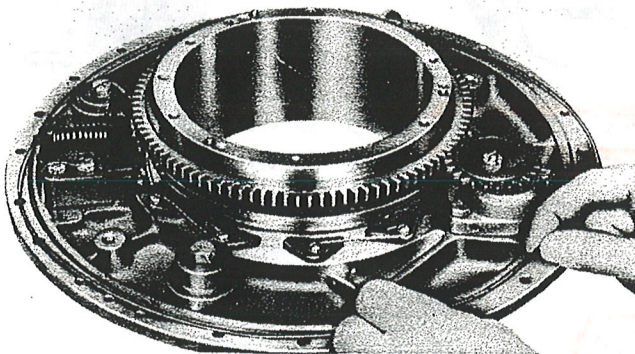

Figure 145—Installing Cord Seal in Housing
(9) Insert the cord seal in the groove of the regulator housing. Cut the seal  $\frac{1}{8}$  inch longer than necessary. Butt the two ends of the seal together, then work the rest of the seal firmly into the groove. (See figure 145.)